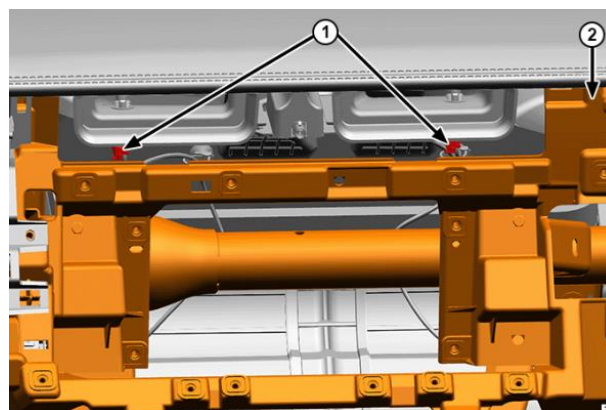

Figure 17 – Air Outlet Wire Harness Connectors
- 36. Working in the radio opening, disconnect the air outlet wire harness connectors (Figure 17).
6. Working in the radio opening, connect the air outlet wire harness connectors (Figure 17).